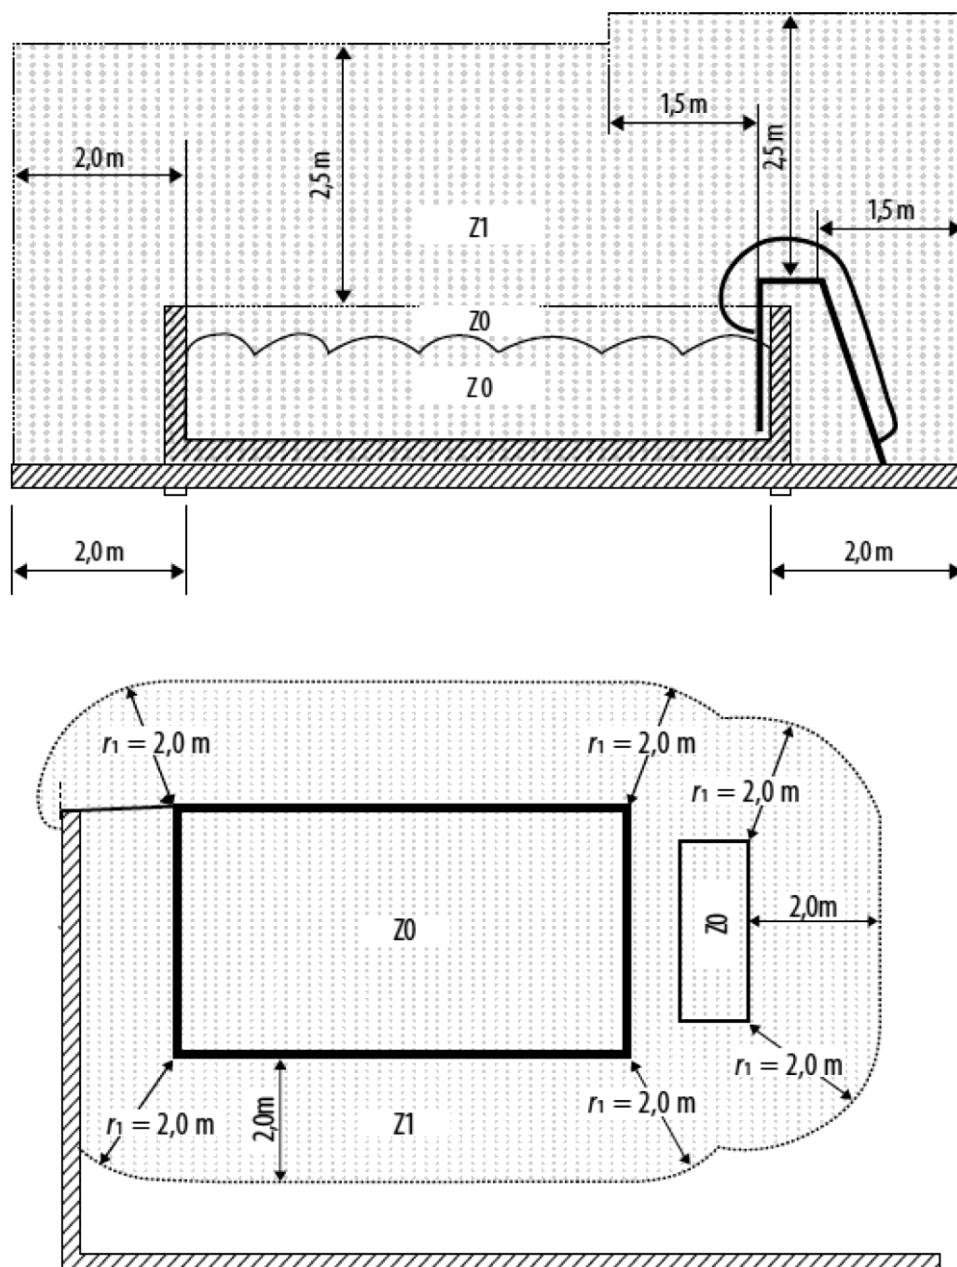

Figure 2
- In Zone 0 (Z0) and Zone 1 (Z1), (Figure 2).